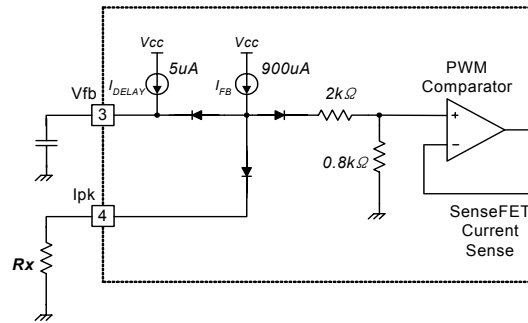

Figure 13. Peak Current Limit Adjustment
8. Adjusting Peak Current Limit : As shown in Figure 13, a combined $2.8\text{k}\Omega$ internal resistance is connected to the non-inverting lead on the PWM comparator. A external resistance of R_x on the current limit pin forms a parallel resistance with the $2.8\text{k}\Omega$ when the internal diodes are biased by the main current source of $900\mu\text{A}$.